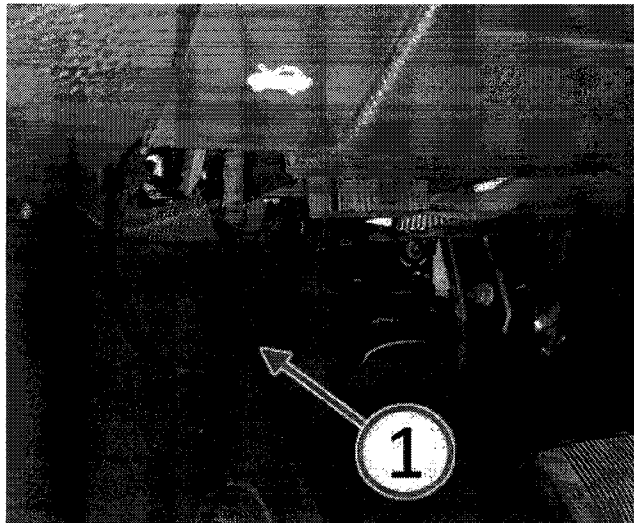

Fig. 1 Hood Release Cable Hanging Down
1. Is the hood latch release cable (1) hanging down too low under the instrument panel as shown in (Fig. 1)?